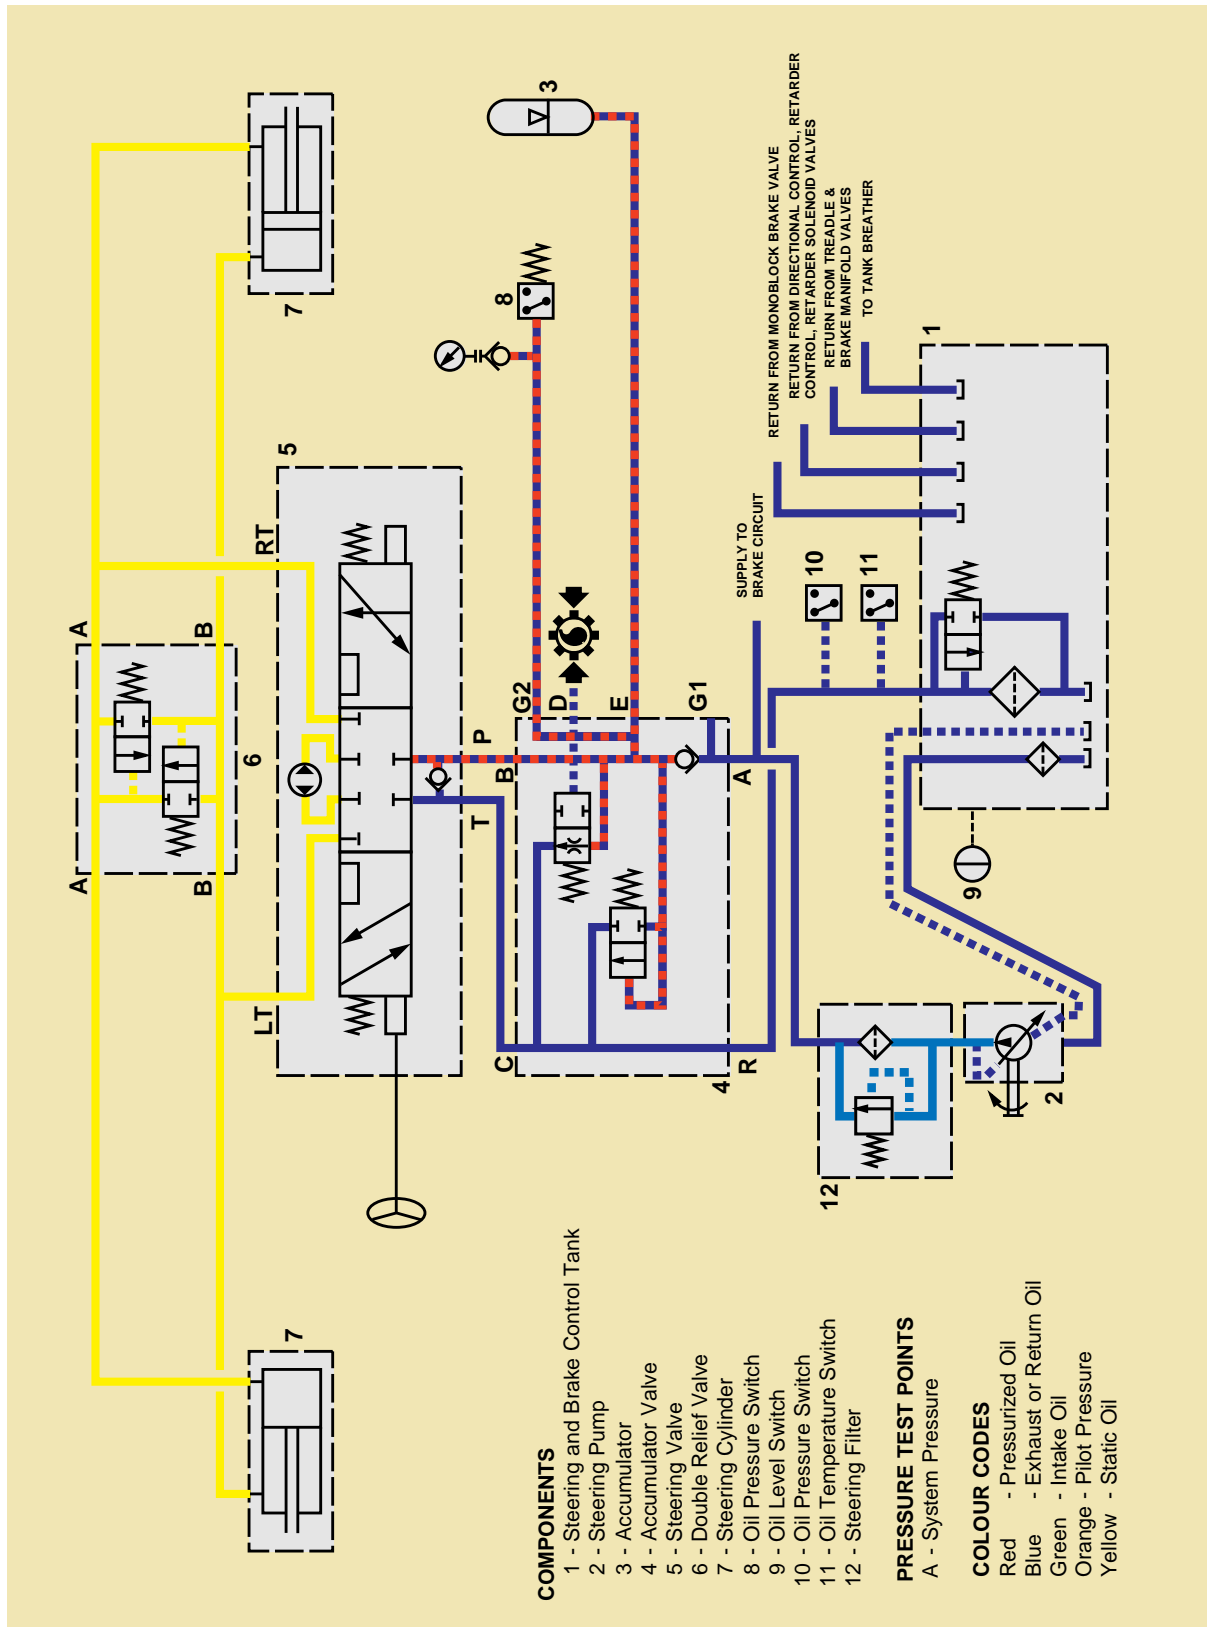
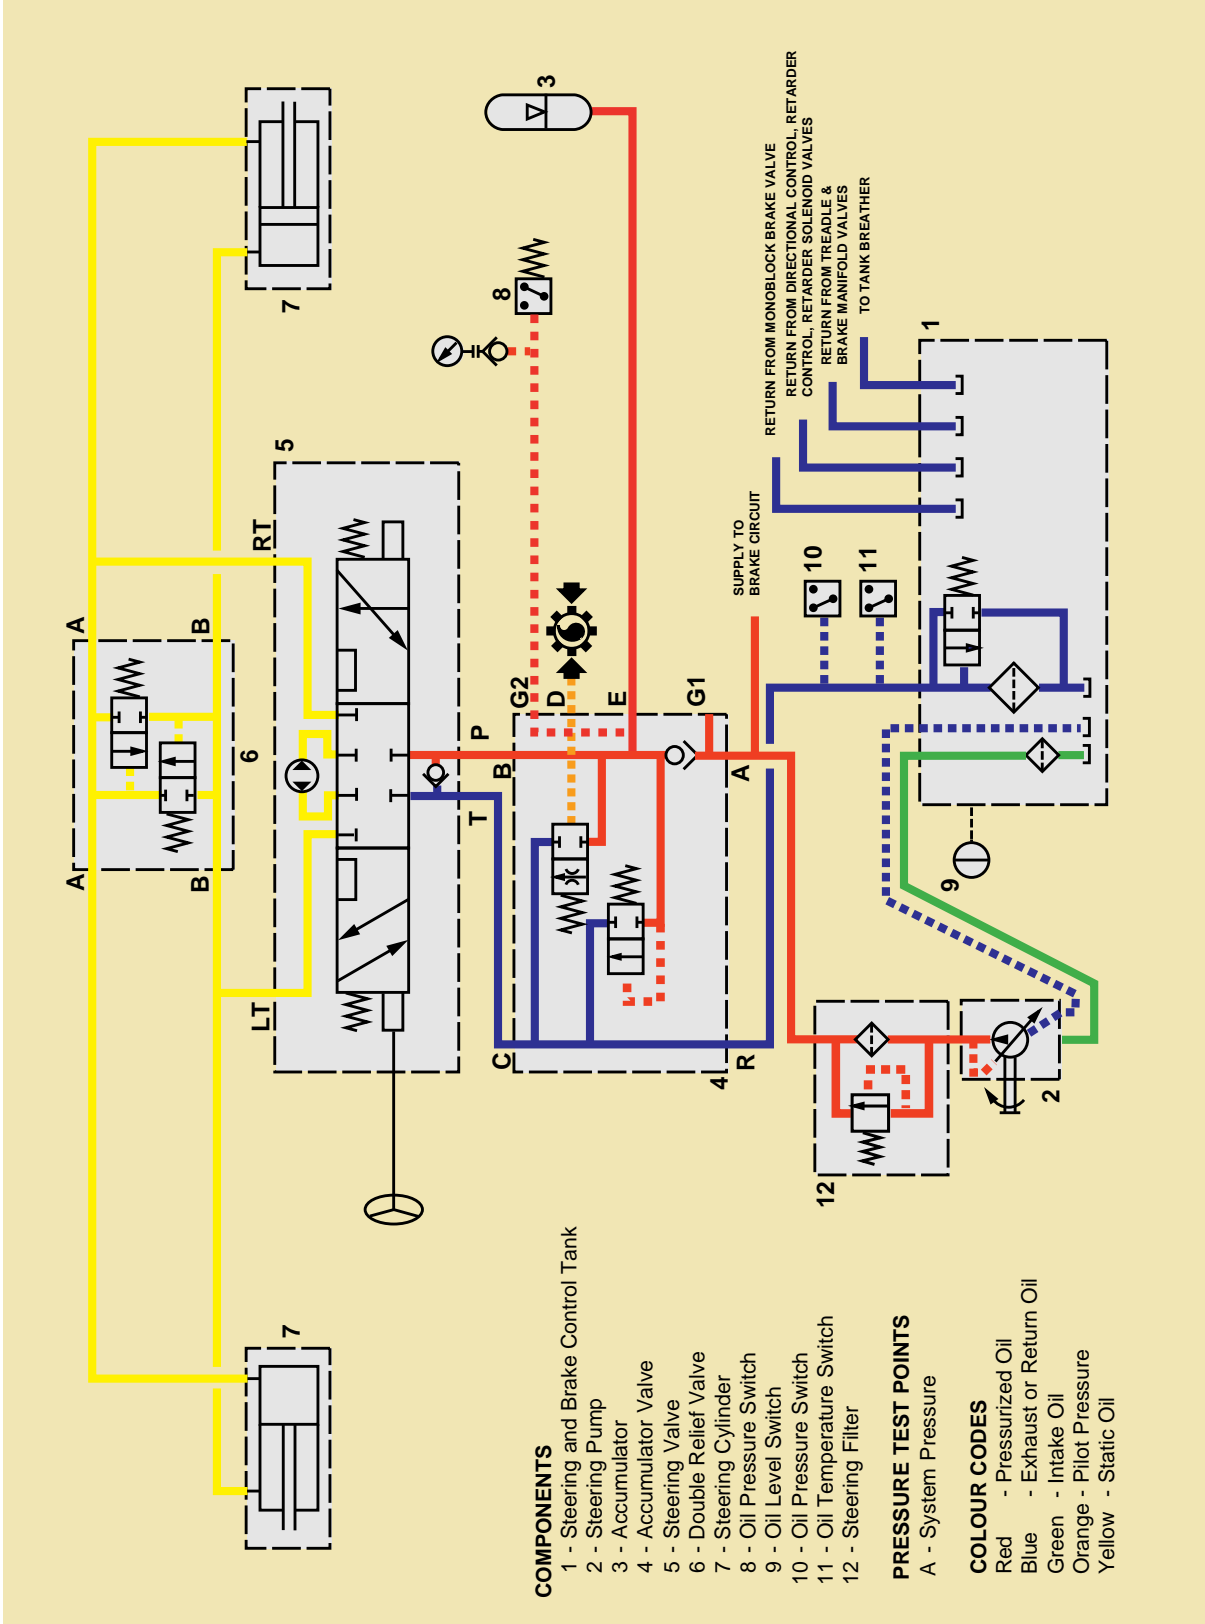

Fig. 2 - Steering System Schematic - Engine Shutdown
Fig. 3 - Steering System Schematic - Engine Running, Steering Valve Neutral
Numbers in parentheses refer to Figs. 2 through 6.
Numbers in parentheses refer to Fig. 1, unless otherwise specified. Letters in parentheses refer to Fig. 3. Refer to Fig. 2 for hydraulic schematic of steering and brake control tank.
Should filter assembly (10) become blocked, oil restriction pressure will increase and oil pressure switch (10, Fig. 2) will close sending a signal to the steering filter restriction warning light on the right hand dash panel, indicating that a filter change is required.
**Note:** Temperature switch (11, Fig. 2) opens when a temperature of 50° C (122° F) is reached. Temperature switch (11, Fig. 2) is connected in series with pressure switch (10, Fig. 2), therefore, steering filter restriction warning light will not illuminate until the oil reaches normal operating temperature.